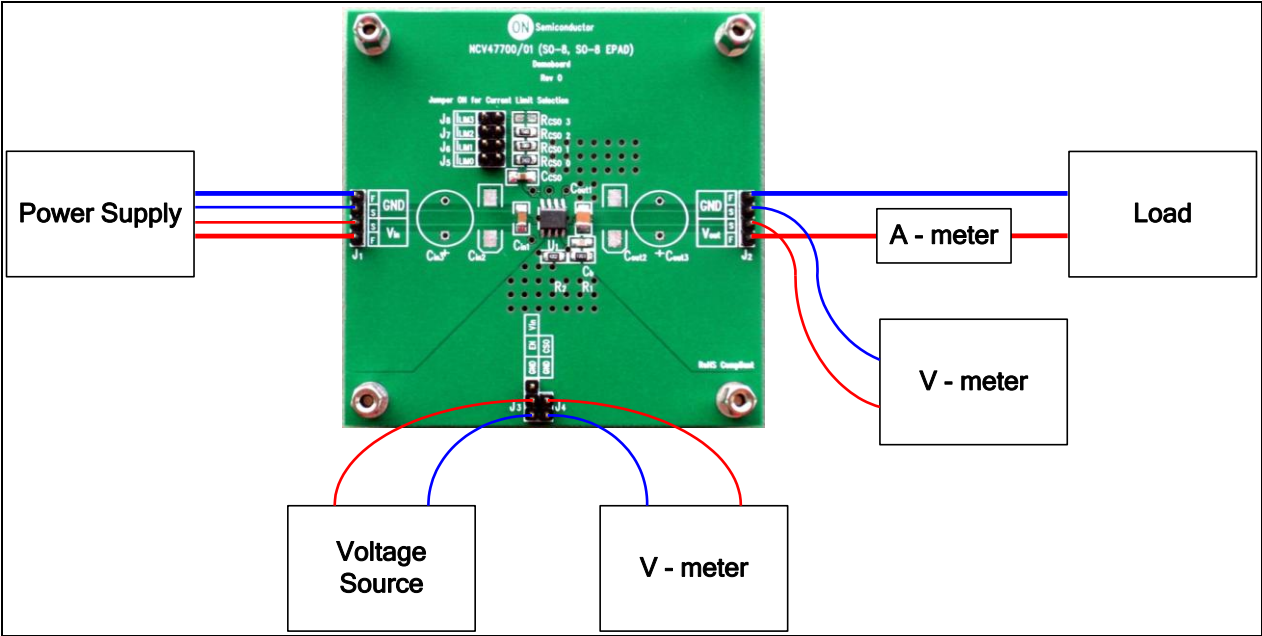

Figure 1. Test Setup
1. Connect the test setup as is shown in **Figure 1**. See **Table 1** with required equipment.